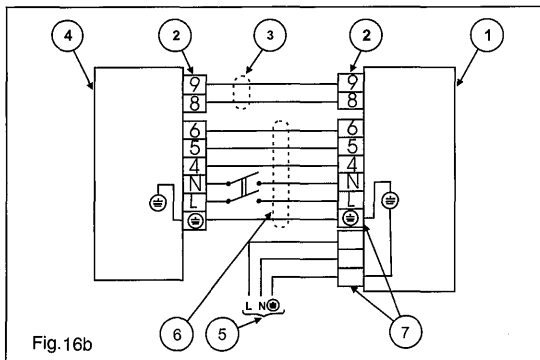
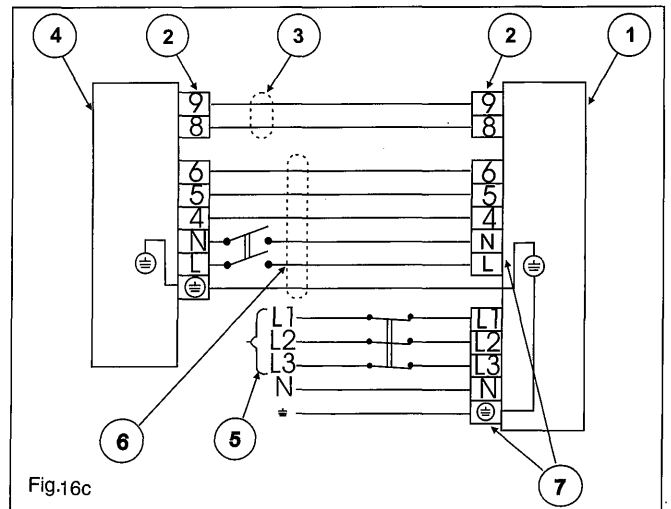

Fig.16a
Fig.16c
3. Connect the cable ends to the terminals of the indoor and outdoor units, as shown in fig.16a. fig.16b.and fig.16c.